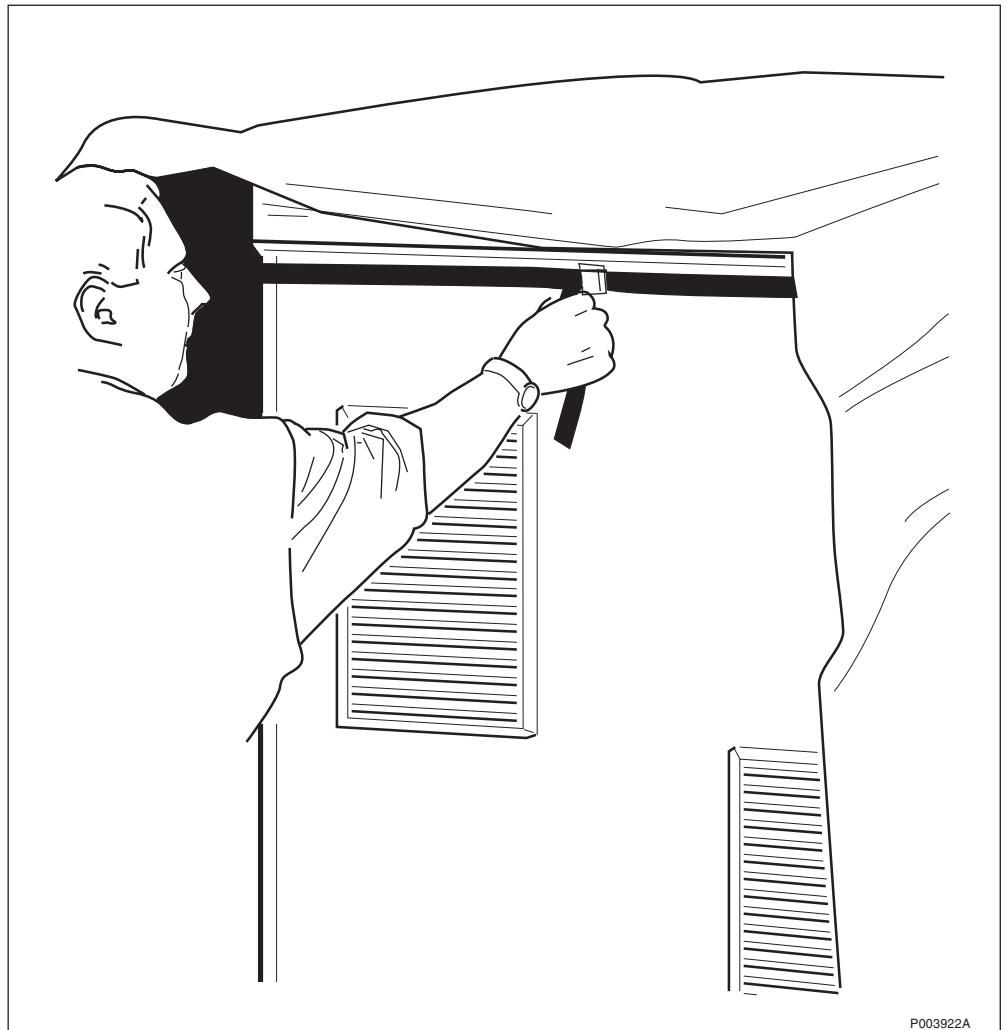

Figure 3 The upper securing strap
5. See figures 3 and 4. Locate the securing straps inside the tent and tighten the upper and the lower strap around the cabinet. (There are two straps at the lower part of the tent to fit different installation heights of the cabinet.)